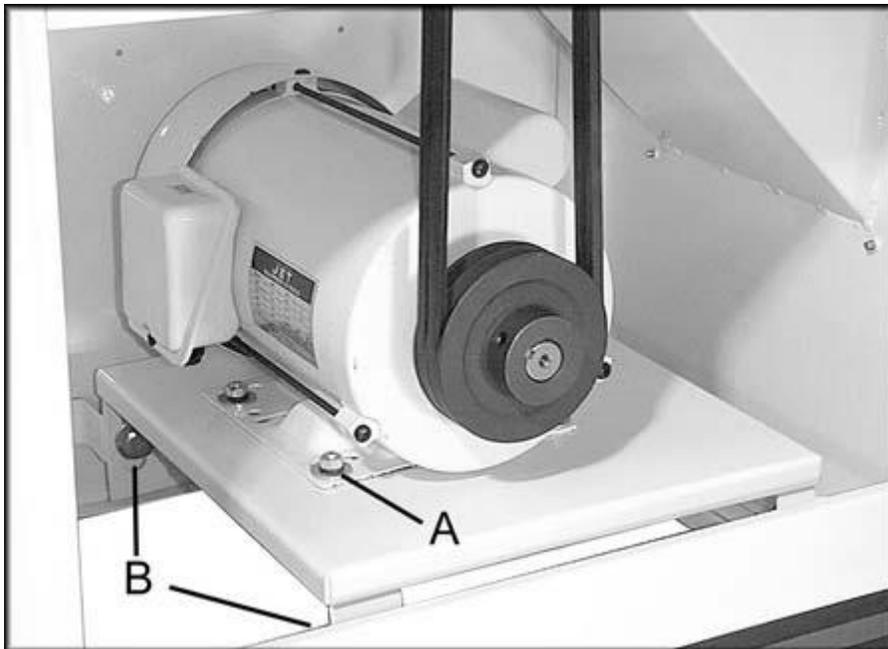

FIGURE 7
4. Pull v-belts down and place onto motor pulley (Fig. 7). If necessary, loosen the mounting screws (A, Fig. 7) and slightly lift motor. Re-tighten the screws when belt is placed.
5. Check to make sure that motor pulley and cutterhead pulley are vertically aligned and the v-belt does not contact the sides of the opening in the base. If the pulleys are not aligned, loosen the screws (A, Fig. 7) on the motor base and slide the motor until the belt is aligned. Re-tighten screws.
6. The v-belt is properly tensioned when finger pressure on the belt half way between the two pulleys causes 1/2" deflection. If the belt is too loose, loosen the lower screws (B, Fig. 7) on the mounting plate and push down on the plate. When belt tension is correct, re-tighten screws.